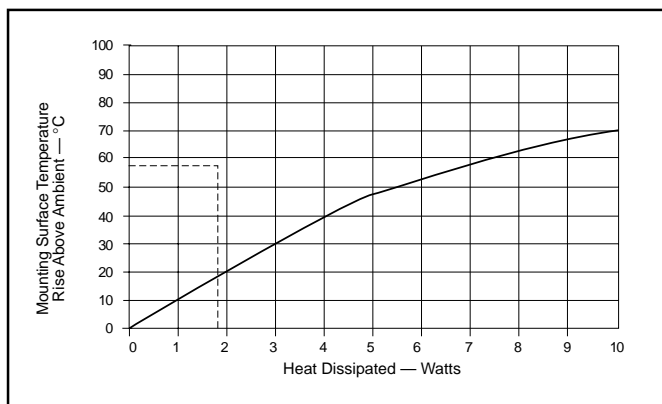

Figure 4. 504222 heatsink performance curve from AAVID Thermal Technologies product selection guide.
Step 4: Select the right heatsink. Each heatsink has a performance curve which shows its heat dissipation capability in still air (Figure 4).
We have already chosen a TO220 package. To select an appropriate heat sink we consult the performance curve for the AAVID Thermal Technologies 504222 low profile model. It shows the temperature rise of the package mounting surface as a function of power dissipation: e.g. if 2 watts is dissipated, the surface temperature only rises about 20°C above ambient (Figure 4). Locate the value of the power dissipation, P_D (1.83W) on the X axis of the graph (Heat dissipated - Watts). Then locate the value of allowable heatsink temperature rise above ambient on the Y axis of the graph. The allowable temperature rise in this case is 58.56°C (1.83×32).
Consulting Figure 4, we see that the heat sink curve lies below the allowable temperature rise so it will work in this application.